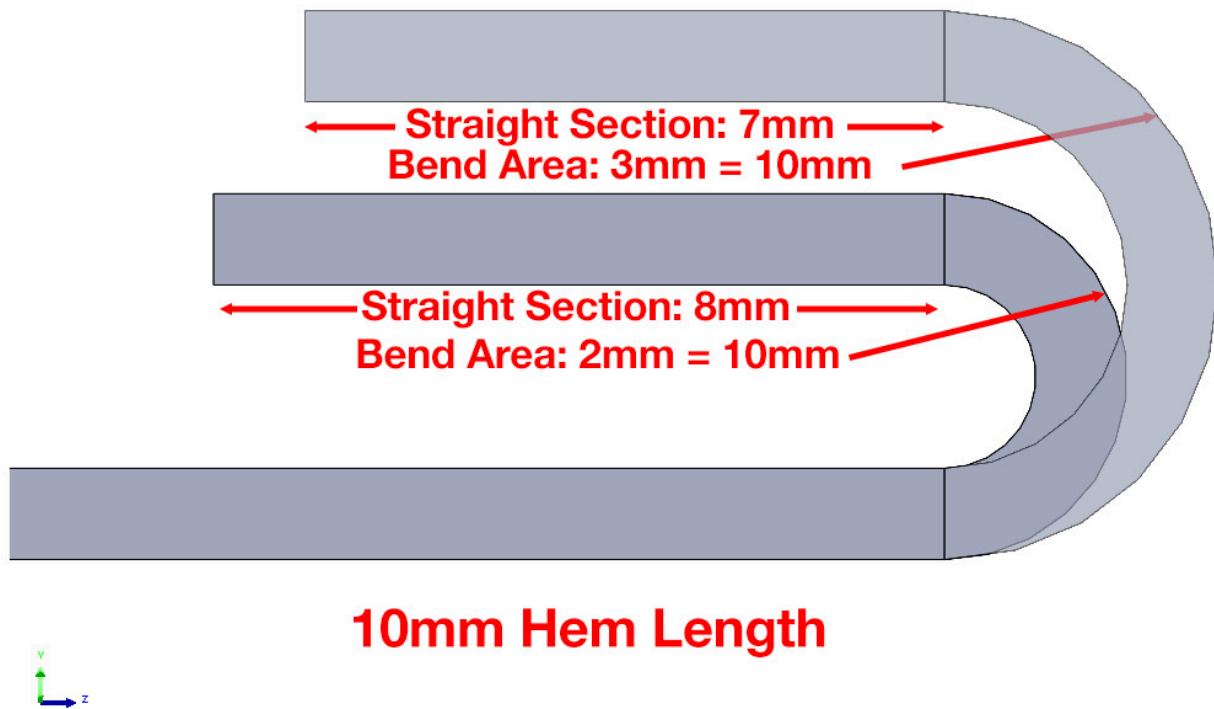

Figure 3.17: The Hem length includes the bend area, so a larger gap will reduce the length of the straight section
- **Open:** This type is quite similar to the **Closed** type but allows a gap distance to be set. Again, the length of Hem includes the bend area. Therefore, a larger gap will have a larger bend radius and so will have a shorter straight section for any given Hem length, as illustrated in *Figure 3.17*.